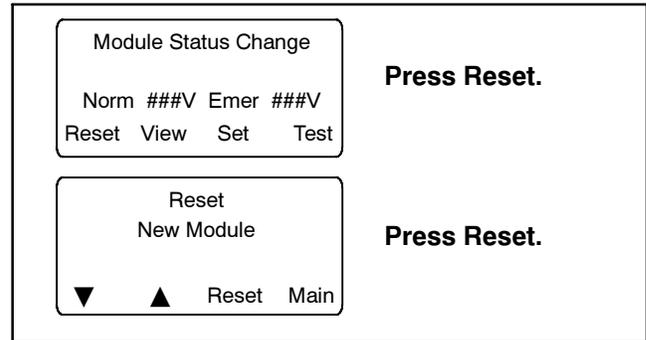

Figure 32 Screens after Module Connection
1. If the ATS display shows the Module Status Change, press the Reset button. See Figure 32.
8. Close the enclosure door and reconnect power to the ATS. The display will show Module Status Change. See Figure 32.